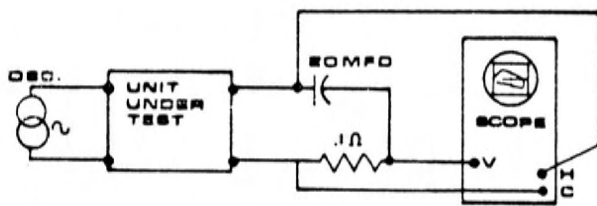

FIG. 1
- A. Connect oscillator, oscilloscope, 0.1 ohm 10W resistor, and 20MFD oil capacitor capable of 20 amps. ripple as shown in Figure 1.